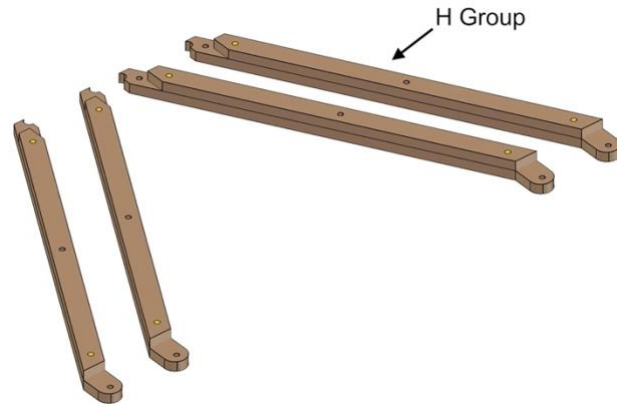

Fig. 38
- Fig. 38 shows the completed process (make four parts).